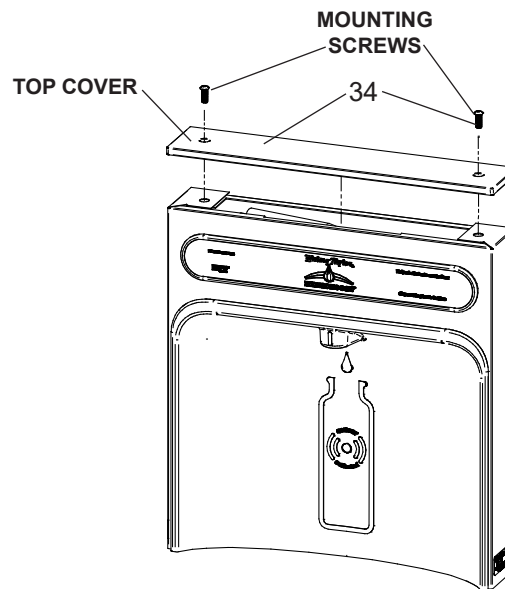

Fig. 7
- 1) **Remove two (2) mounting screws** with 5/32" Allen wrench holding top cover to Bottle Filler (See Fig. 7). Remove top cover. Note do not discard mounting screws, they will be needed to reinstall top cover.
- 9) **Once Bottle Filler is installed on wall plate tabs,** water line and power cord are installed properly, push top of Bottle Filler toward wall and line up top cover two (2) holes.
- 10) **Reinstall Top Cover on Bottle Filler** (See Fig. 7) with two mounting screws from step 1 above. Caution, do not over tighten screws.